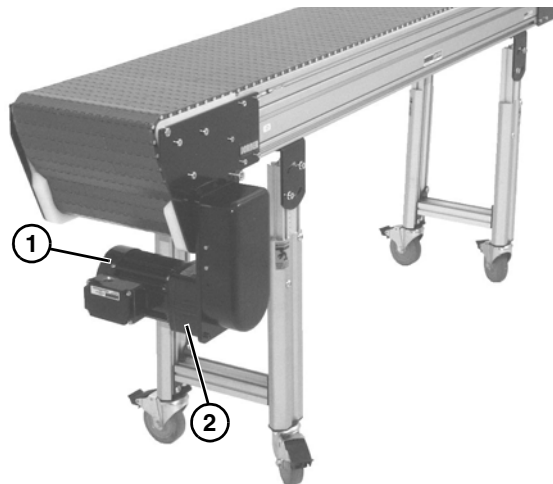

Figure 17
1. Attach the motor (**Figure 17, item 1**) to the gear reducer (**Figure 17, item 2**).